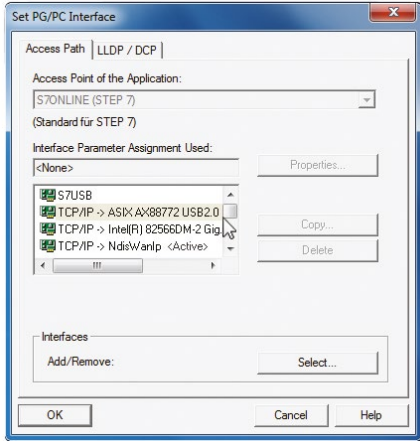

Fig. 45: Set PG/PC Interface (source: Siemens)
2. Select a connection from the list, which is connected with CP1616, and click “OK” to confirm (Fig. 45).